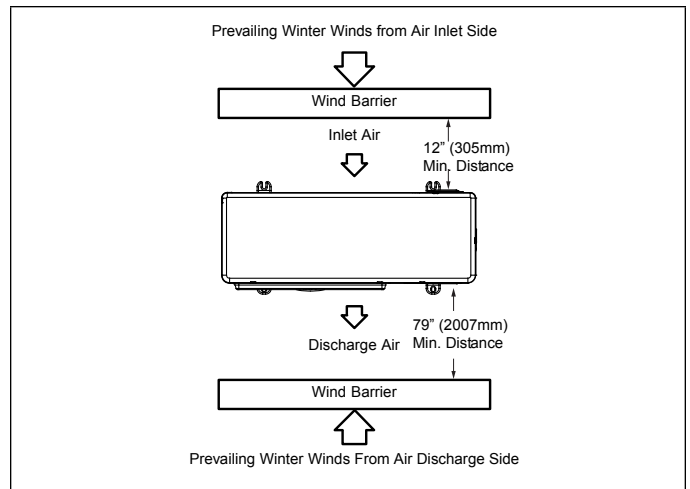

Figure 19. Wind Barrier
- When prevailing winds are from the air inlet side, then position the wind barrier a minimum of 12 inches (305 mm) from the unit as illustrated in "Figure 19. Wind Barrier"
- When prevailing wind is into the discharge side, then position the wind barrier a minimum 79 inches (2007 mm) from the front of the unit as illustrated in "Figure 19. Wind Barrier"